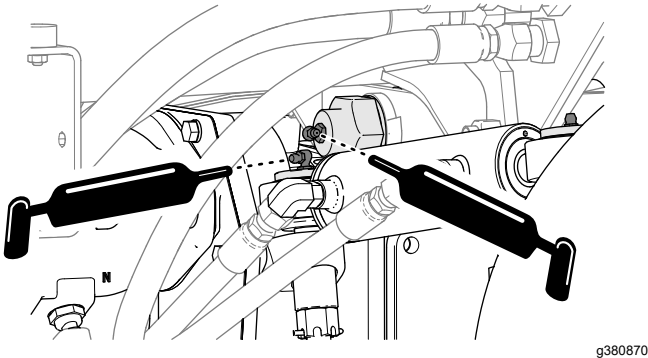

Figure 113
- Rear axle-pivot bushing and steering cylinder, refer to Figure 113